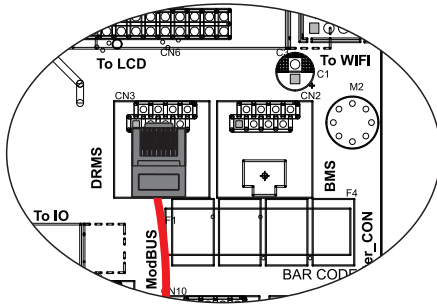

Figure 4.8-4 RJ45 interface
Step 4. Connect RJ45 terminal to the right position onto the inverter. See Figure 4.8-4